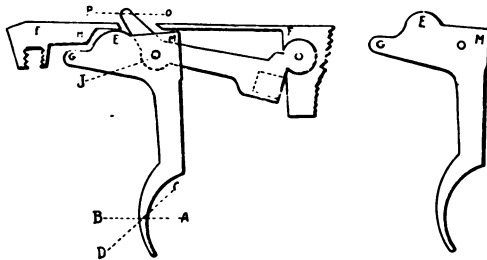

FIG. 4—DIAGRAM SHOWING CAUSE OF THE DRAG TO TRIGGER PULL IN U. S. MAGAZINE RIFLE, AND REMEDY FOR SAME.
A careful examination shows that there are two elements to the drag; first, a horizontal pull along the line (A-B, Fig. 4), which feels as though one were pulling against a spring, and second, a rather grating feeling as the trigger movement changes approximately to the direction (C-D). The first element is caused by the rolling of the rounded projection (E) of the trigger upon the bottom of the receiver (F), and ends when the extremity (G) of the trigger comes in contact with the projection (H) on the receiver. The second part of the drag is caused by the pulling of the point of the sear out of the notch in the firing-bolt, into which it has entered too deeply. To remove the drag by grinding, remove the trigger and sear, and take out the pin (J) which joins them; then grind off the rounded portion of the trigger (E), so that the trigger when applied to the action without the sear will rest on the points (M-G). This removes the first element of the drag. Now put the trigger and sear together, drive the pin into place, and carefully grind off that